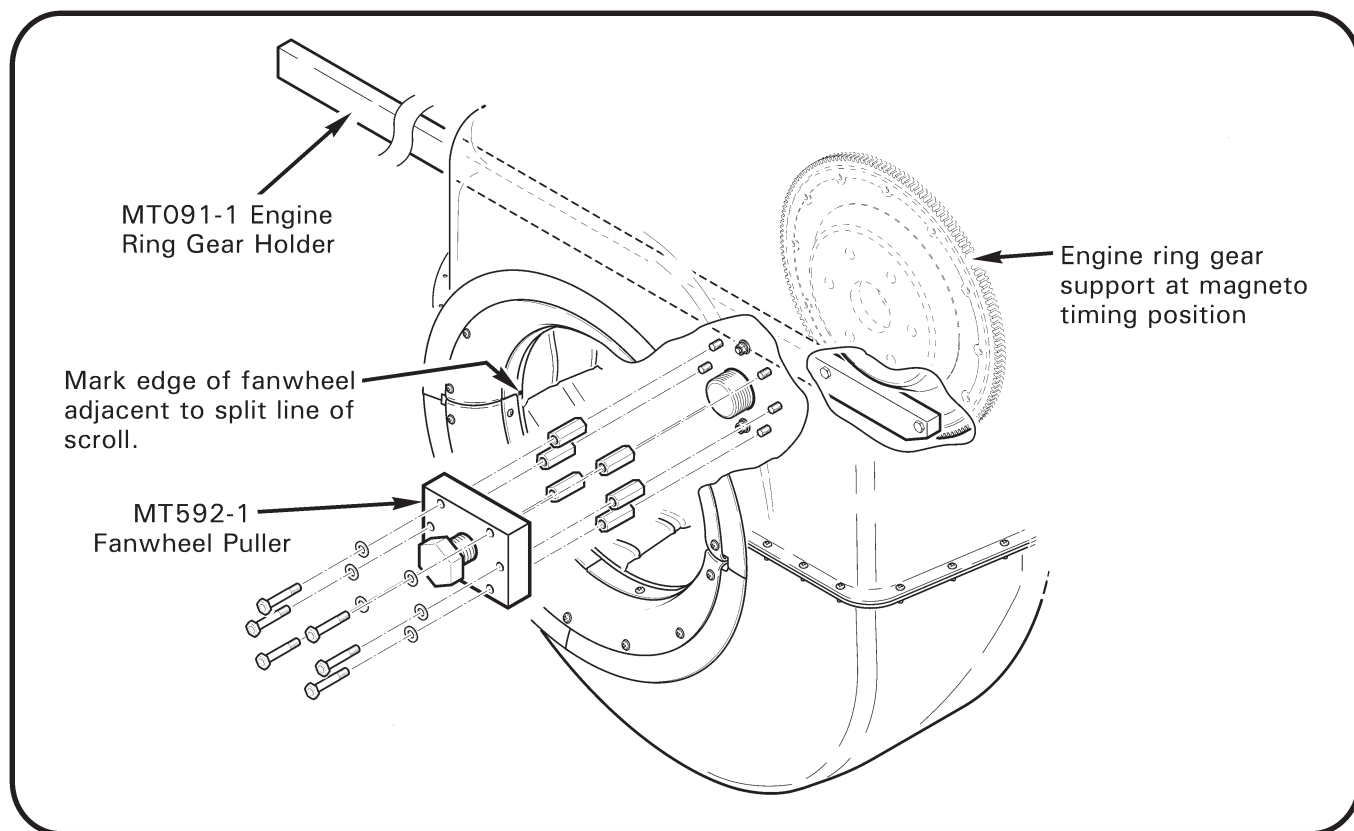

FIGURE 6-4 FANWHEEL PULLER INSTALLATION
If same fanwheel will be reinstalled then orient starter ring gear support to magneto timing position and mark fanwheel at split line of scroll; this will minimize need for new balance weights. See Figure 6-4.
8. Back out MT592-1 fanwheel puller's center bolt and attach puller to the MT092-3 spacers (see Figure 6-4).
9. Securely attach MT091-1 starter ring gear holding tool and have someone hold ring gear stationary (see Figure 6-4).